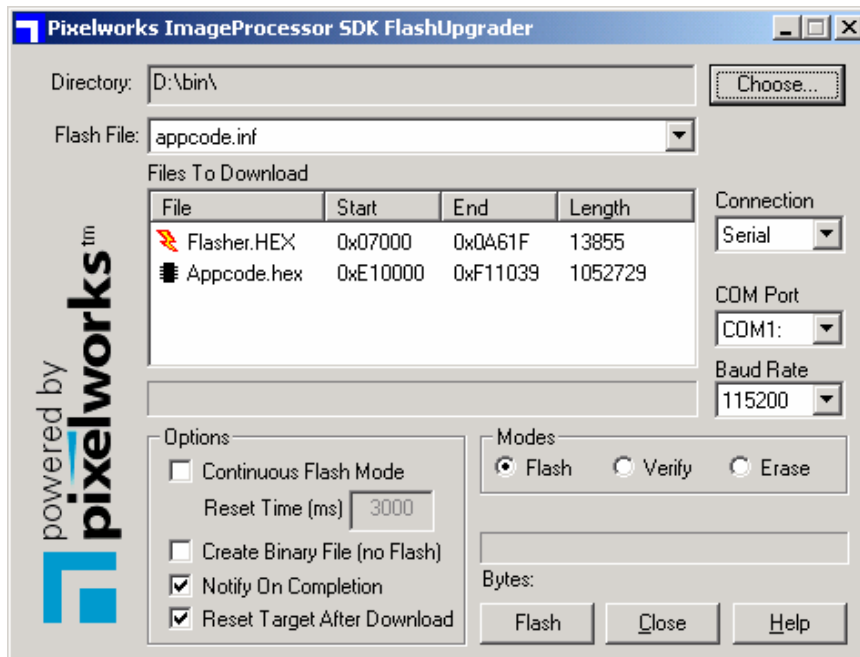

Figure 4
R.Color Pattern (Figure 4)
(6) After loading the appcode.inf file, a file list is displayed that will be flashed (as shown in Figure 4).
- 1.5 Put all the accessories into the top cushion. (Figure 4)
(Figure 4)